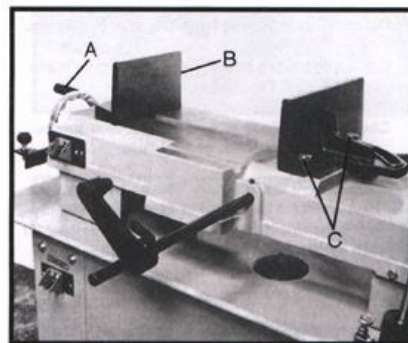

Fig. 9
1. Remove bolt assemblies (C. Fig. 9)
- Position vise and re-install bolt assemblies as pictured in Fig 9.